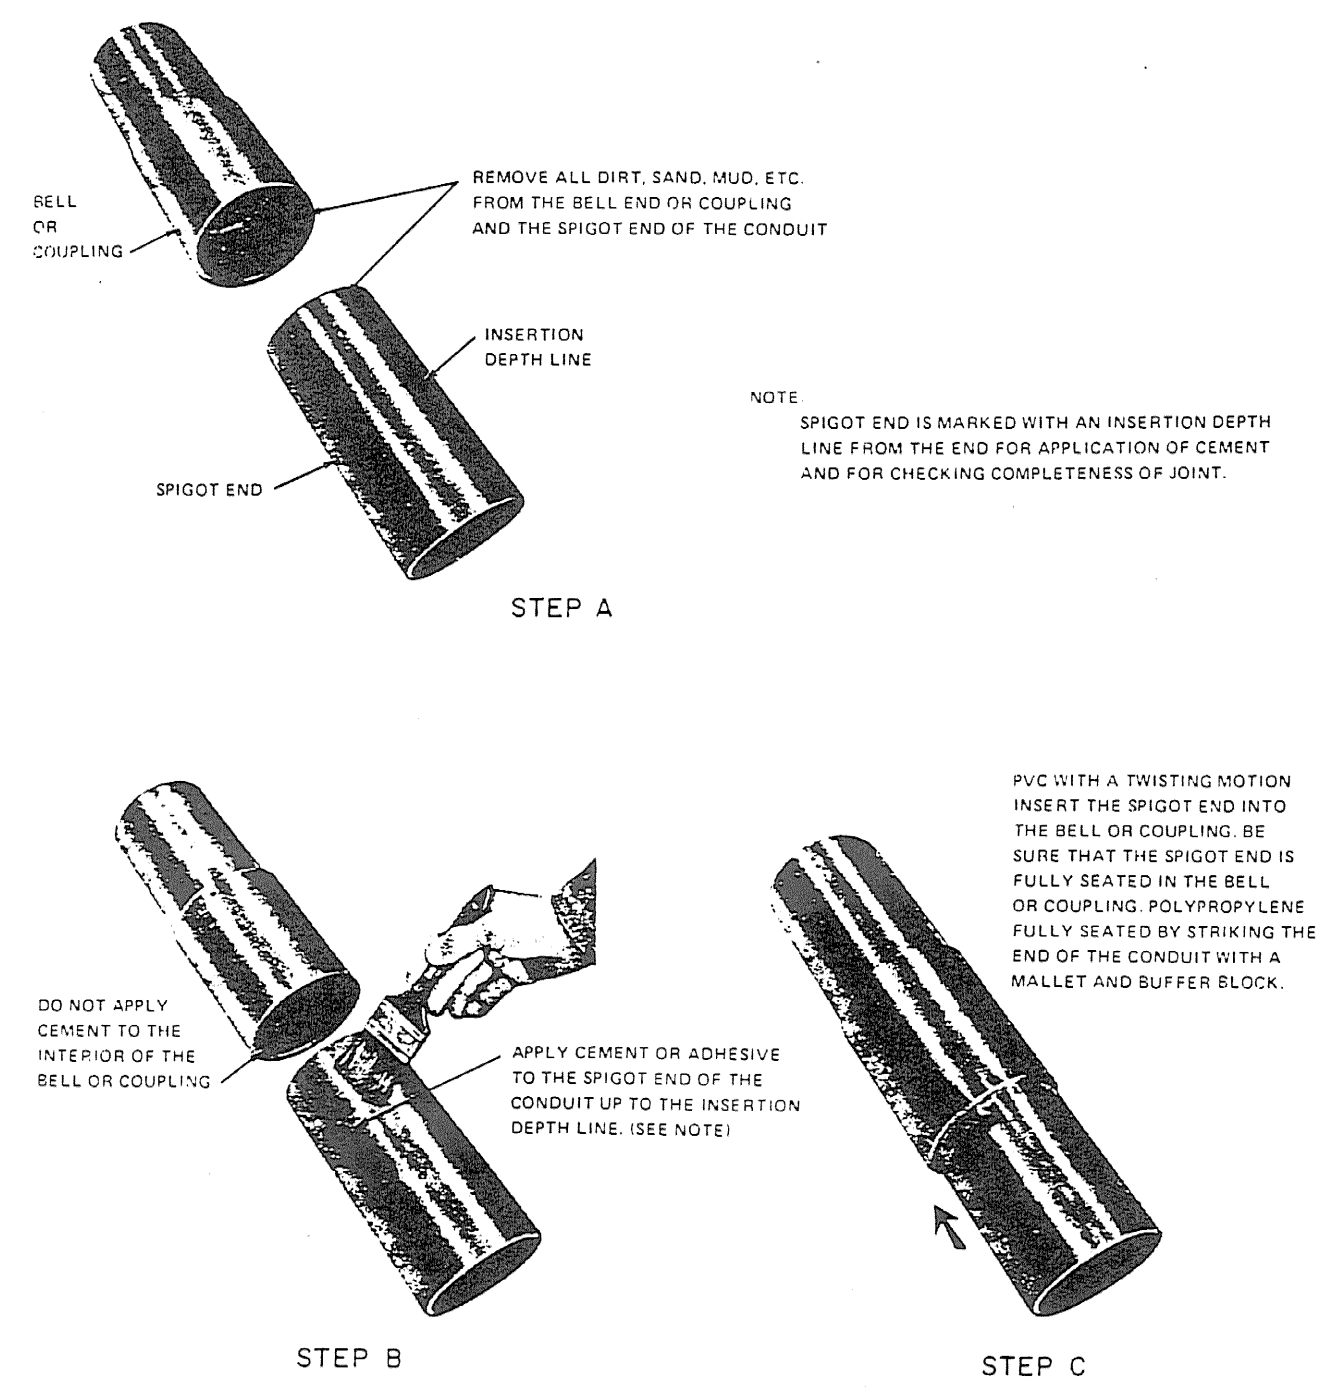

Fig. 4—Joining Conduit
5.02 Join the conduit as follows (Fig. 4):